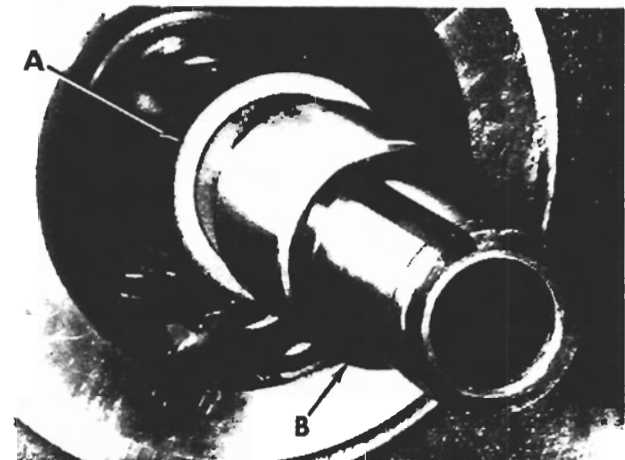

Figure 20
11. Remove spacer (B, fig. 20) and gasket (A) from spindle.